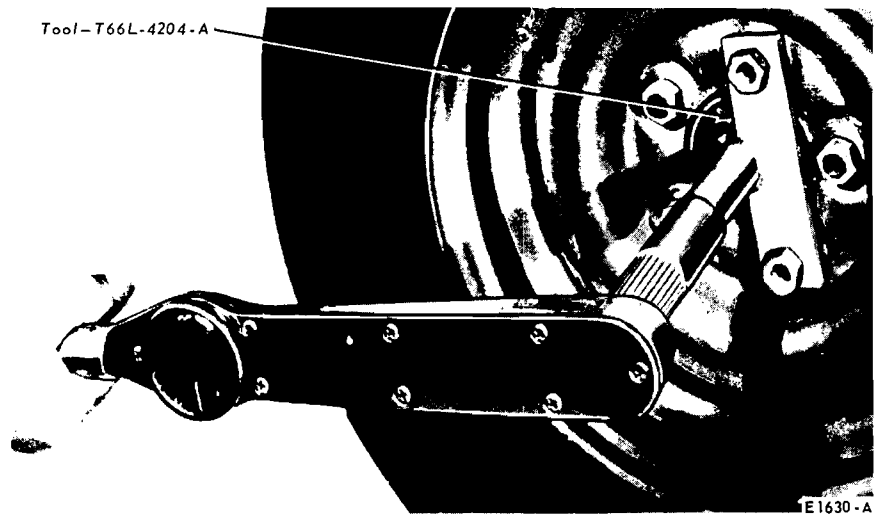
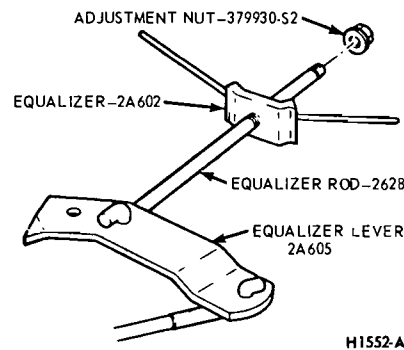

FIG. 3—Checking Parking Brake Break-Away Torque
FIG. 4—Parking Brake Linkage Adjustment — Mustang and Cougar
3. Raise the vehicle. Remove the wheel cover. Install Tool T66L-4204-L on the rear wheel (Fig. 3).
4. Turn the locking adjustment nut forward against the cable guide on the equalizer (Fig. 4) until there is 100 ft-lbs break-away torque at the rear wheel when turning the rear wheels in the direction of forward rotation with a torque wrench (Fig. 3). The torque measurement must be made relative to the centerline of the wheel.
wheels in the direction of forward rotation with a torque wrench and Tool T66L-4204-L as shown in Fig. 3.